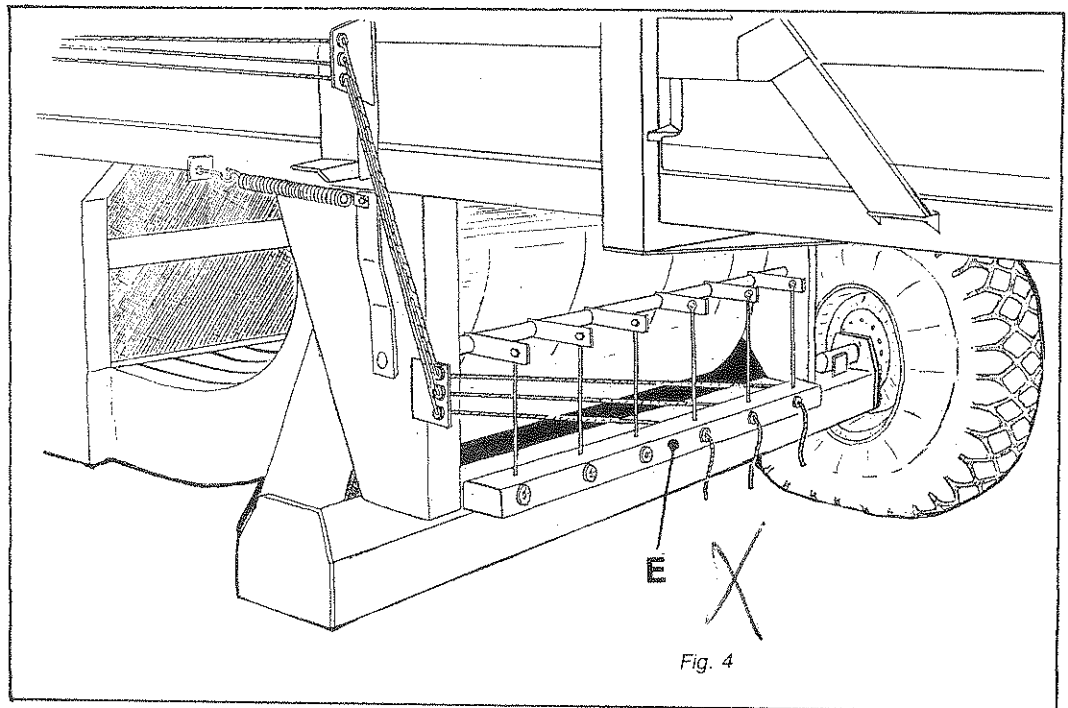
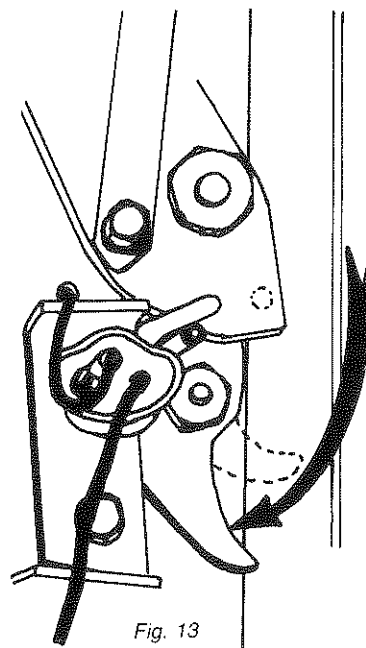

Fig. 4
Fig. 13
4. Route twine through the guides located near the twine tensioners, (E); proceed, pulling the twine through the tensioners, see **Fig. 4.** The three twines from the left twine box are to be routed through the right hand side of the twine tensioner and the three twines from the right hand twine box go through the left hand side of the twine tensioner. This crossover at the tensioner will prevent the twine from rubbing on the axle support leg. (**NOTE:** A button hook is useful to pull twine through the twine tensioners.)
5. Thread the twine through the needle rollers, (F), located 22 inches from the tip of the needles; then through the needle eyes, (G), located at the tip of the needles.
6. Tie each twine to the cross member located above the twine tensioners on the bottom of the chamber, (H). Each twine should be individually tied directly above the twine tensioner through which it is threaded.
7. Once the needles have cycled and the knotters are loaded with twine, remove the twine ends from the cross member, (H); then, manually pull the knot sensor fingers, located on top of the chamber underneath the knotters, see **Fig. 13.**
In the event of a mistie, the appropriate indicator will remain lit. To turn off the indicator light, manually pull the knot sensor finger rearward, see Fig. 13.